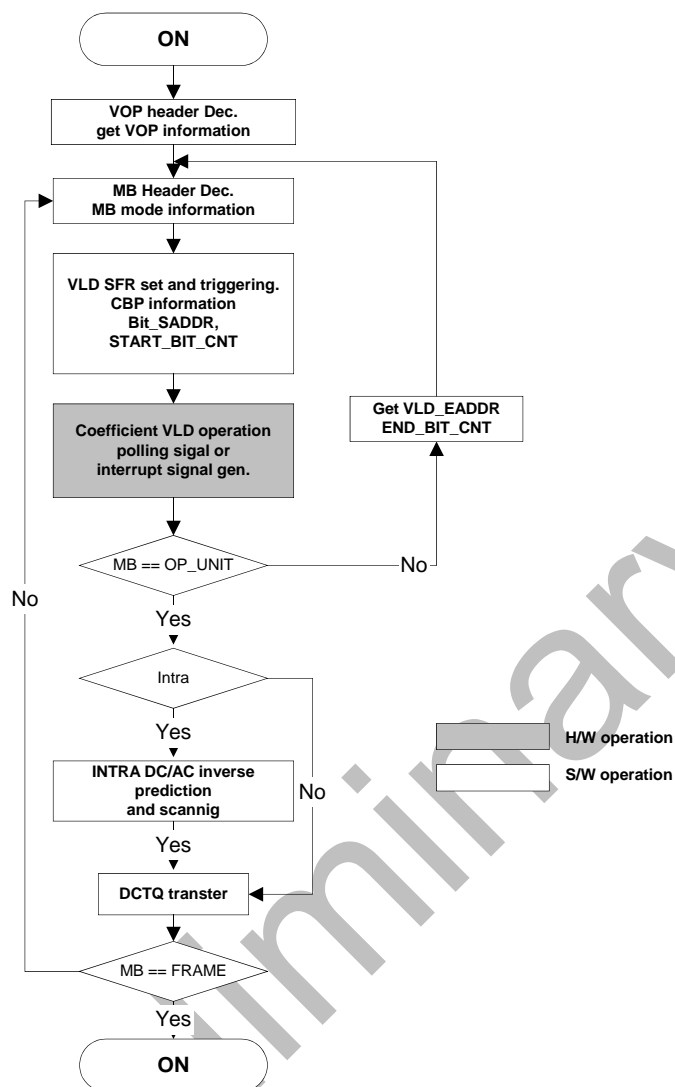

Figure 26-10 VLD flow chart and s/w and h/w processing partition.
- VLD processing explained Figure 26-10 VLD flow chart. VLD flow chart is partitioned S/W processing and H/W processing.